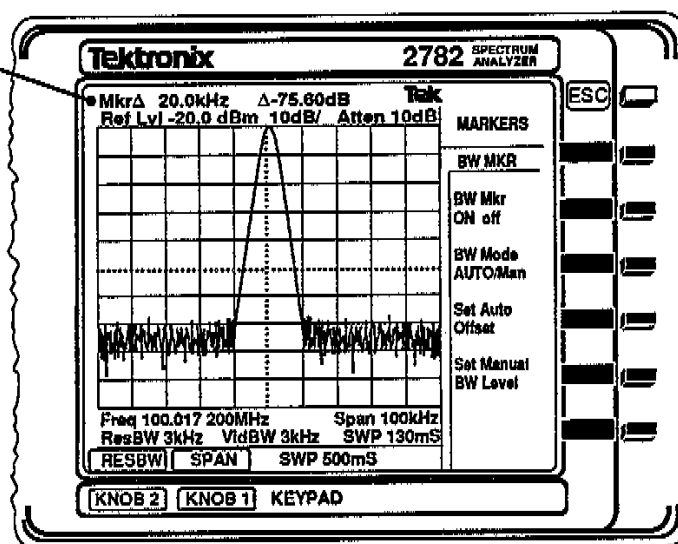

Figure 2-7. Delta markers.
- q. Rotate the FREQUENCY/MARKERS knob to move the yellow, reference marker, and note the Δ Mkr readout displays the frequency and amplitude difference between the two markers; see Figure 2-7.